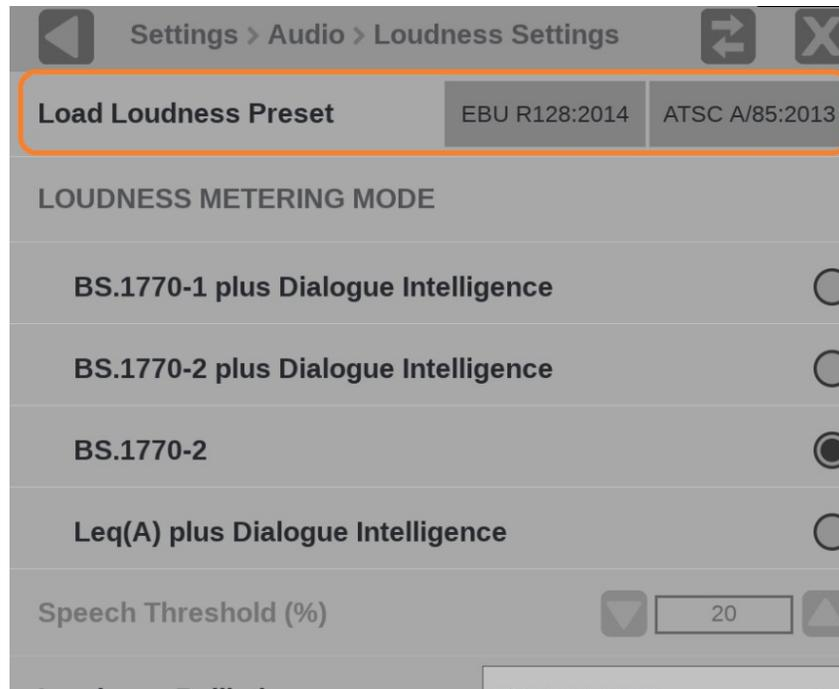

Figure 50: Loudness Settings with the Loudness preset options marked
4. Load a standard preset: Select **EBU R128:2014** or **ATSC A/85:2014** for a pre-defined set of loudness metering configuration. (See Figure 50.)